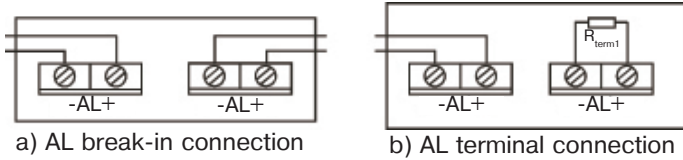

Figure 6
8.1 Connection patterns are shown in Figure 6.
Lead the wires above the PCB. Hook up the Detector as it shown in Figure 6. Put the Detector cover on it's place.